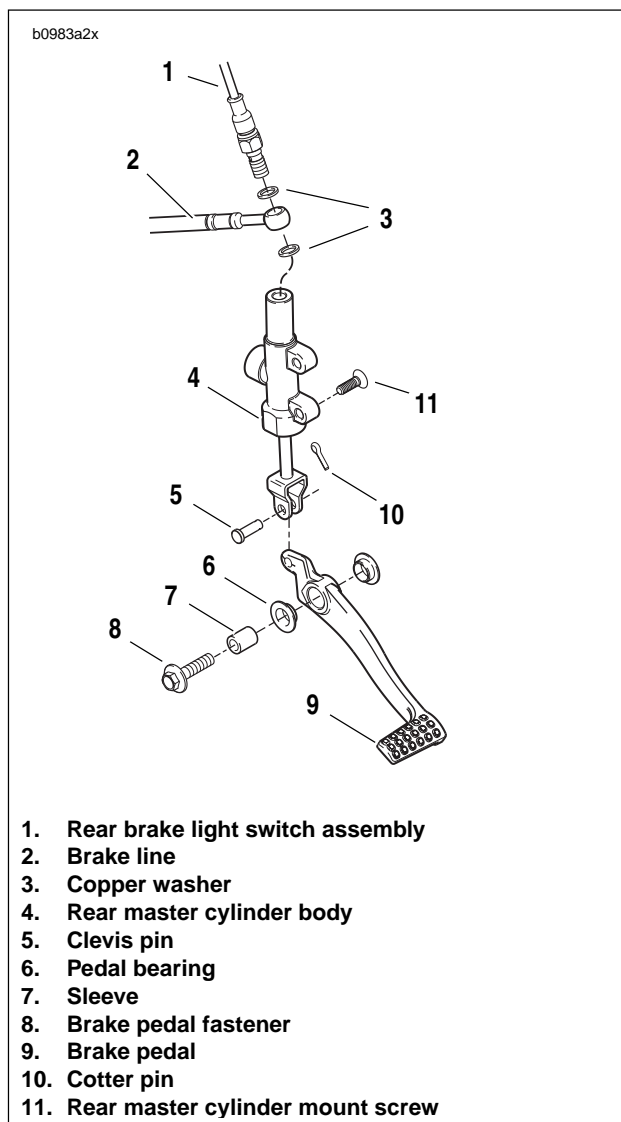

Figure 2-51. Rear Master Cylinder Assembly
7. See Figure 2-51. Remove rear brake light switch (1) (metric) and two copper crush washers (3) to detach brake line (2) from master cylinder (4). Discard copper crush washers.
9. See Figure 2-51. Remove fasteners (11) (metric) to detach master cylinder (4) from rider footpeg mount.
1. See Figure 2-51. Install master cylinder (4) onto footpeg mount with fasteners (11). Tighten to 72-96 **in-lbs** (8-11 Nm).
2. Install rear brake switch (1), brake line (2) and **new** copper crush washers (3). Tighten to 16-20 ft-lbs (22-27 Nm).